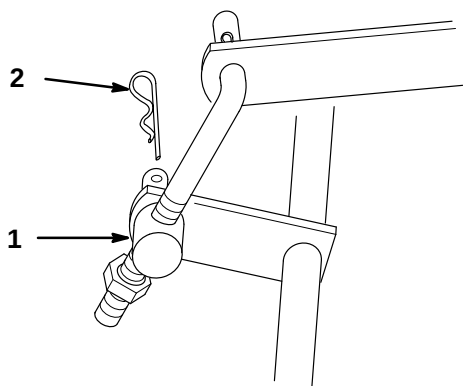

Figure 2
1. Place adjustable link trunnion into rear wheel shaft bracket and secure with hairpin cotter (Fig. 2).